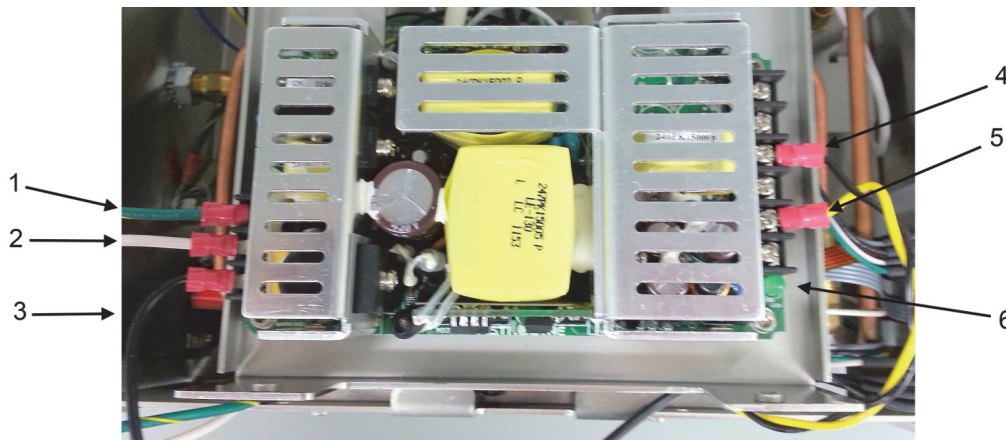

Figure 2
6. Connect the machine to power and verify the correct voltage (100 VAC to 240 VAC) is present at the power supply input terminals. See figure 2 connections 2 and 3. If the correct voltage is not present, check the Power Entry Module and power cord.
- b. Disconnect the Power Switch wire from the Power Supply see figure 2 item 3.